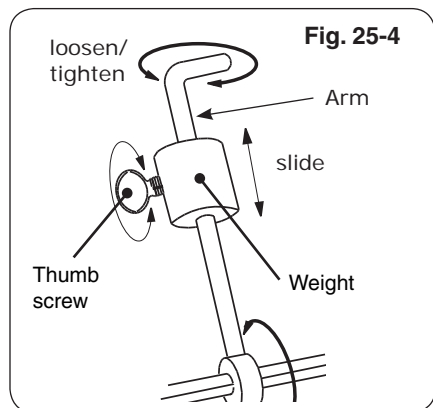

Fig. 25-4
9. Slide the counterbalance weight up or down the arm until the rod rotates most evenly then tighten thumb screw (Fig. 25-4 and Fig. 25-5).